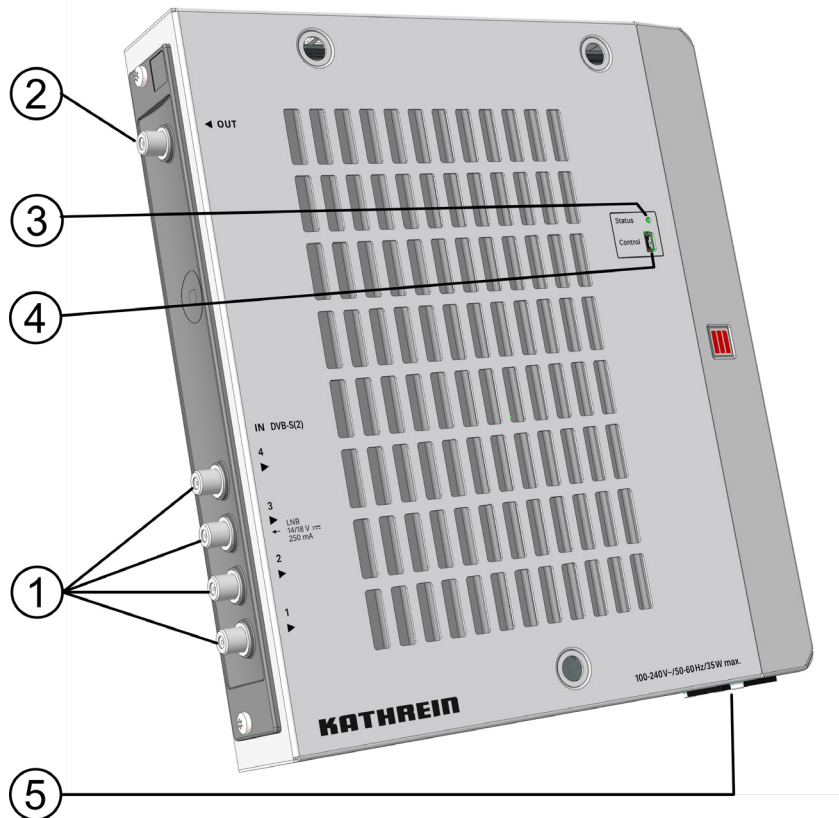

Fig. 1: Device elements
1. Connect the RF signal cables to the head-end; see ①, ② and ③ in Fig. 1, P. 3.